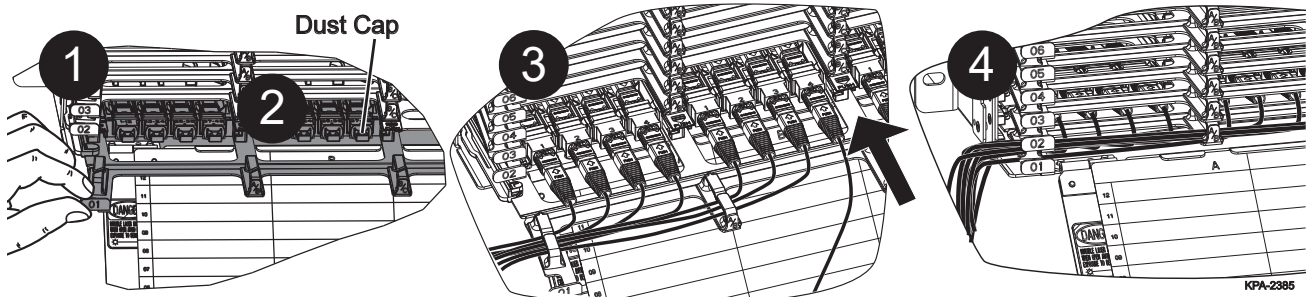

Figure 23 — Route Harness Cable
- Step 3:** Mate the connectors in the adapters (Figure 23). If MTP® adapter is equipped with shutter, lower the shutter first, then mate the connectors.